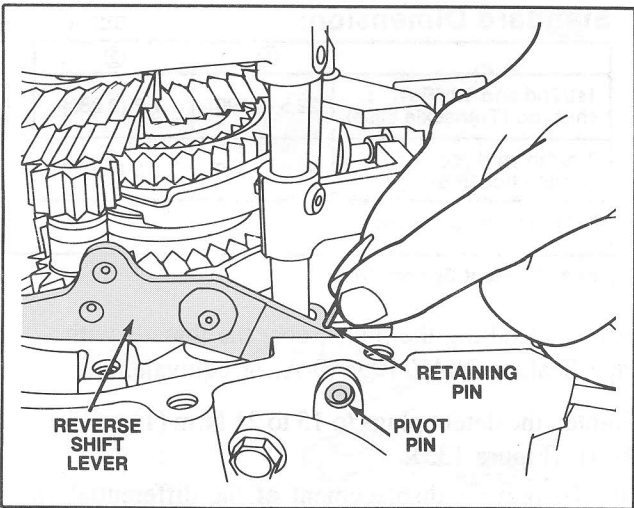

Figure 127 Retaining Pin Installation
19. Install the intermediate lever pivot pin retainer. (Figure 127).